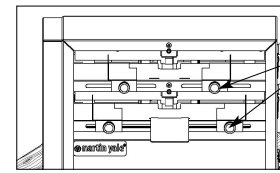

Figure 5
1. Loosen the thumb knobs on the Paper Guides for the appropriate shelf (see Fig. 5).